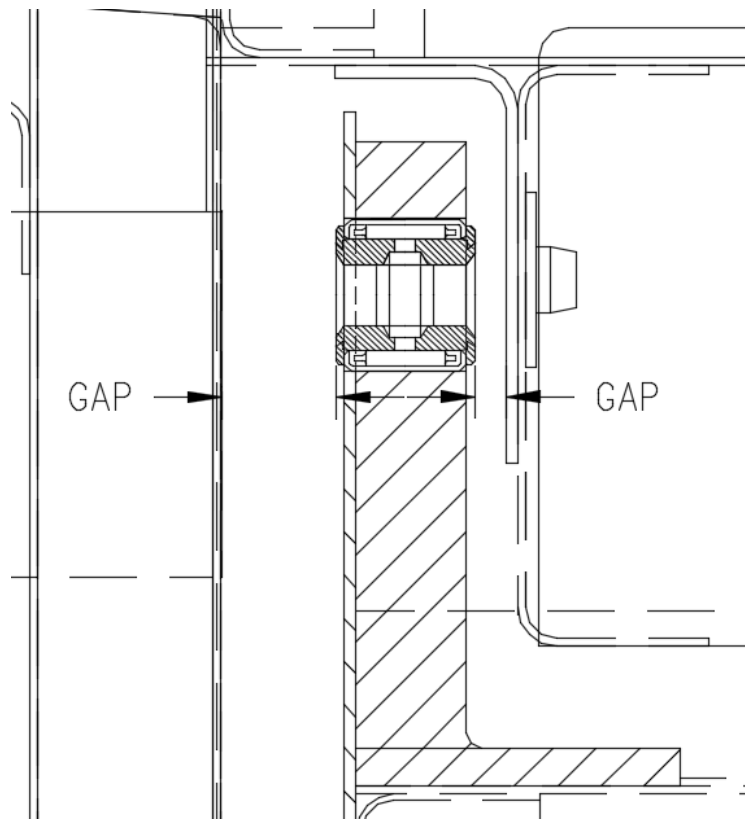

Figure 7 – Measurement of gaps for Outboard Hinge
- 8.7. Measure the gaps between the end washers of the needle roller bearing and inside faces of the Outboard elevator hinges as shown in Figure 7.